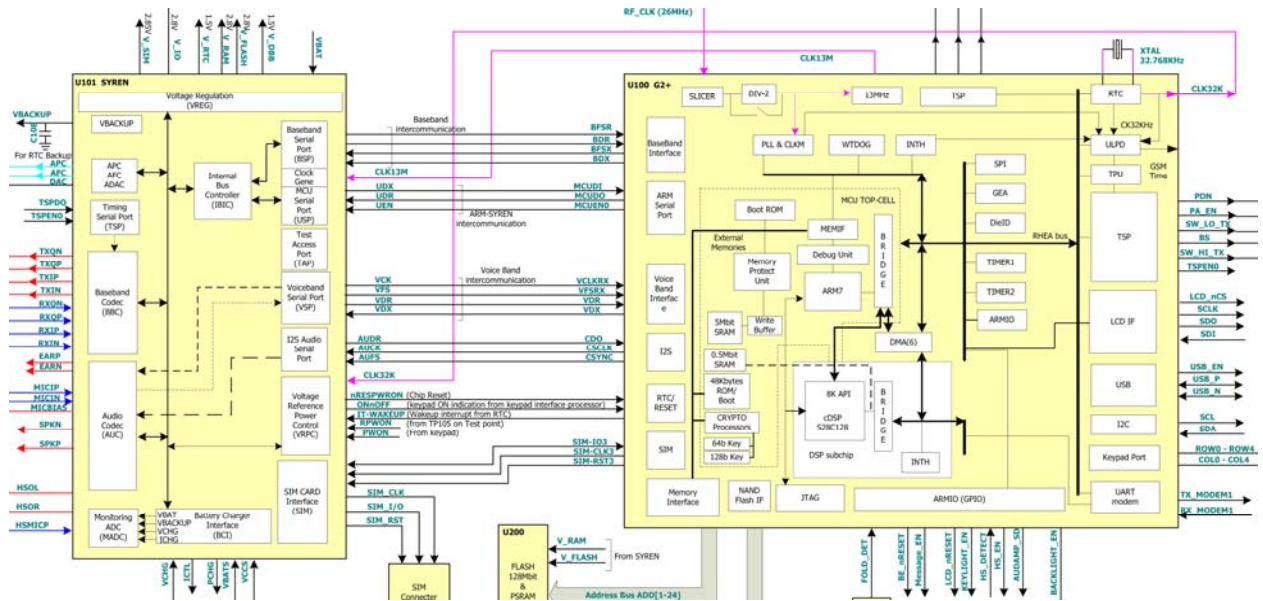

Figure 2: Syren and Calypso-Plus IC
- Figure 2: Syren and Calypso-Plus IC7